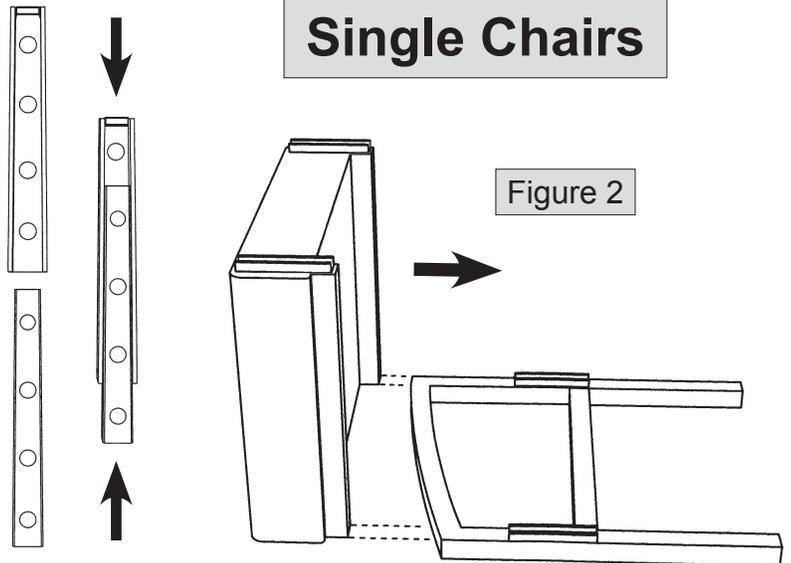

Figure 1
2. This chair is held together by use of **interlocking wedge hardware**, as shown in figure 1.